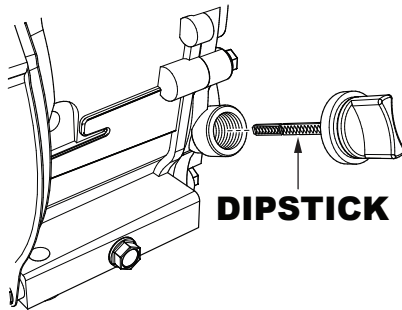

Figure 24. Engine Oil Dipstick
2. Remove the dipstick (Figure 24) from the engine oil filler hole and wipe it clean.